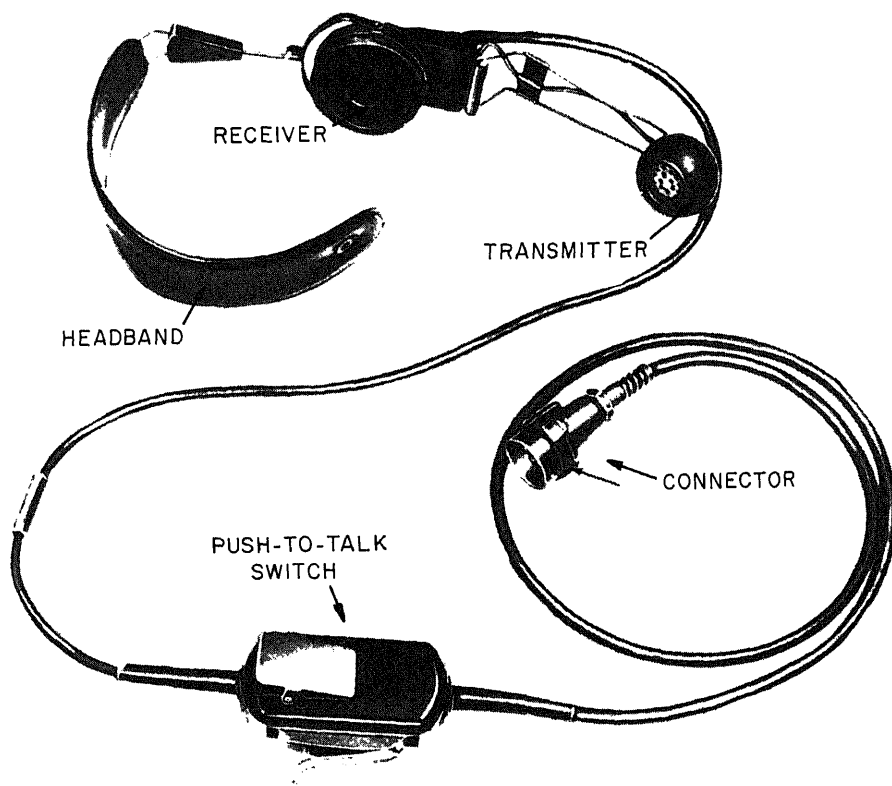

Figure 8-13.—Handset-headset, H81A/U.
The SB-22/PT consists of four basic parts: the operator's pack (fig. 8-10); the line and trunk pack (fig. 8-11); the accessory kits (fig. 8-12); and the handset-headset (fig. 8-13).
1. Place the headset (fig. 8-13) over your head so that the receiver covers one ear.
3. Align the connector (fig. 8-13) on your headset cord with the receptacle on the operator's pack (fig. 8-10). Push it into the connector and turn it to the right to lock it into place.